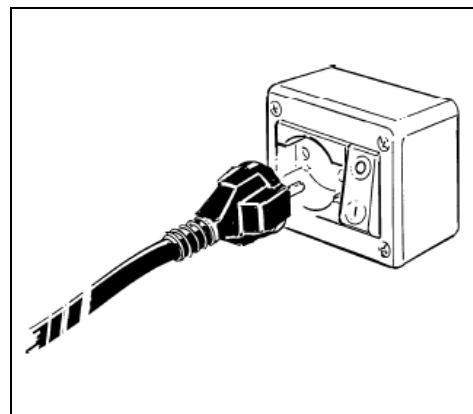

Fig. 3
- Plug the machine to the electric supply (fig.3).